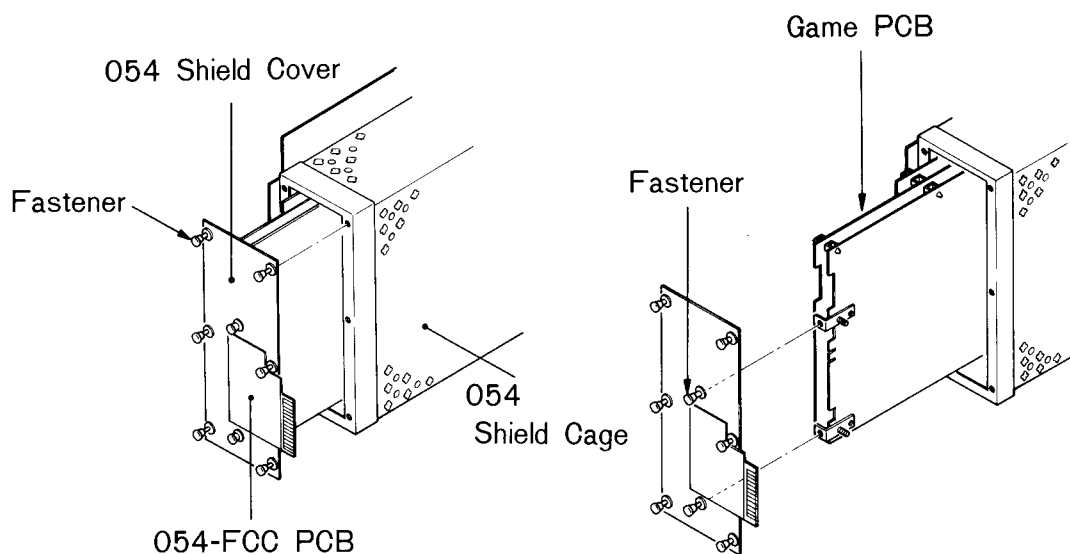

Fig. 13 Game PCB Removal
- (d) Pull out 6 Fasteners located on perimeter of the 054 Shield Cover. See Fig 13.
- (f) Pull out 2 Fasteners at the center of the 054 Shield Cover. The Game PCB can be removed now. See Fig 13.
- (e) After servicing the Game PCB, shut the 054 Shield Cover completely with the Fasteners. See Fig 13.